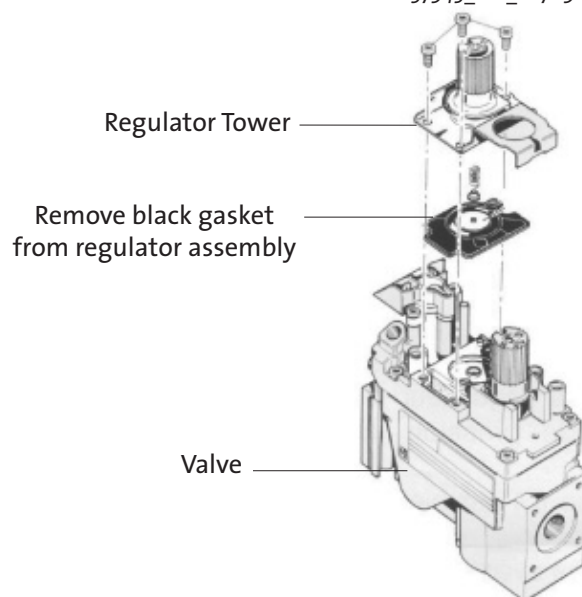

Figure 17 Regulator assembly.
13. Replace the Variable Regulator. Using a Torx T-20 screwdriver, remove the three screws from the front of the valve regulator. See fig. 17.
14. Remove the Regulator Tower, Gasket, white plastic disk, and Spring. Remove the black rubber gasket from the valve. See fig. 17.